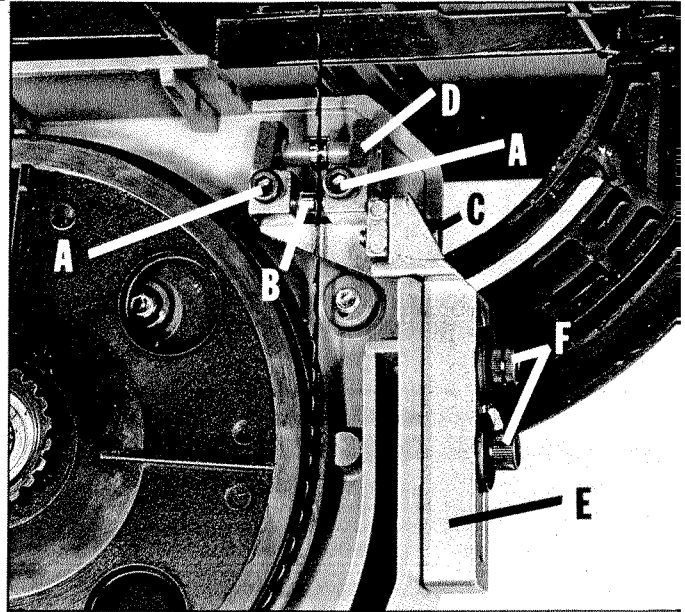

Fig. 14
2. Loosen two screws (A) Fig. 14, and adjust the blade guides (B) as close as possible to the sides of the saw blade being care not to pinch the blade. Then tighten the two screws (A).
3. Loosen screw (C) Fig. 14, and move the guide bracket (D) in or out until the front edge of the guides (B) are just behind blade "gullets."
4. Loosen two blade guide screws (A) Fig. 14.
6. Adjust the blade guides, one of which is shown at (B) Fig. 14, as close as possible to the sides of the saw blade, being careful not to pinch the blade. Tighten two blade guide screws (A) Fig. 14.
7. The lower blade guide bracket support (E) Fig. 14, should always be adjusted as close as possible to the table to properly support blade. Loosen two screws (F), move bracket (E) and tighten screws (F).